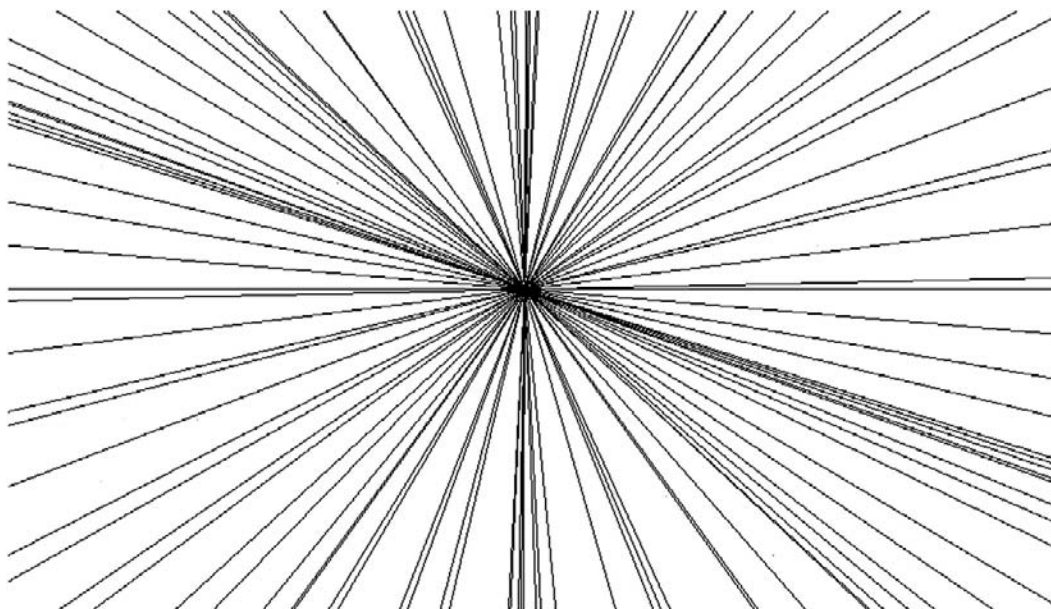
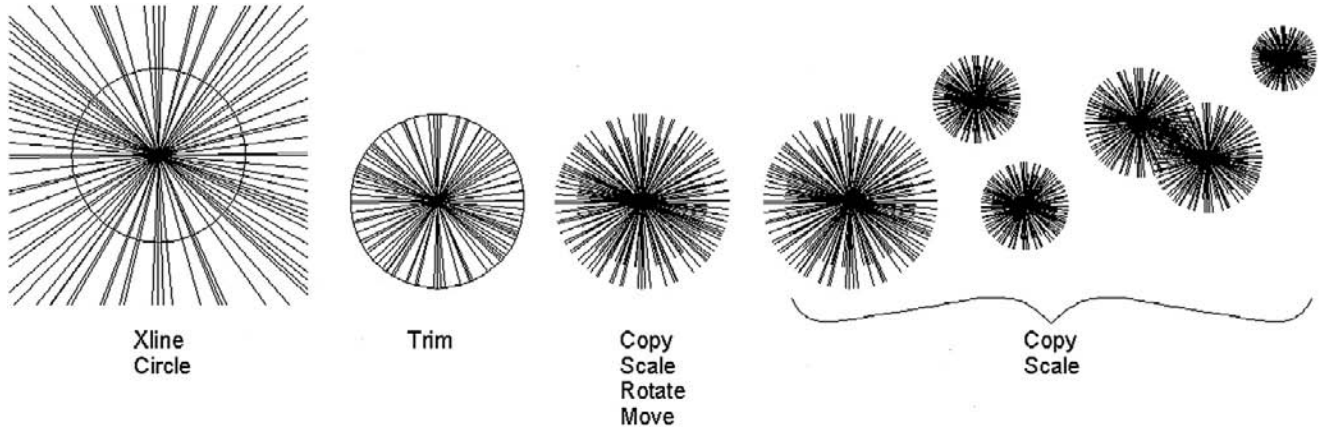

FIGURE 11.11
FIGURE 11.12
- Step 4.** Click randomly anywhere along the screen and multiple xlines appear. Figure 11.11 shows one result of clicking in a circular manner.
Figure 11.11 is perhaps not the most useful of creations, but landscape designers may find some use for the result of placing a circle at the intersection of those lines and trimming. Then, by some creative scaling, rotating, and copying, you get the reasonable representation of trees or shrubs in Figure 11.12.